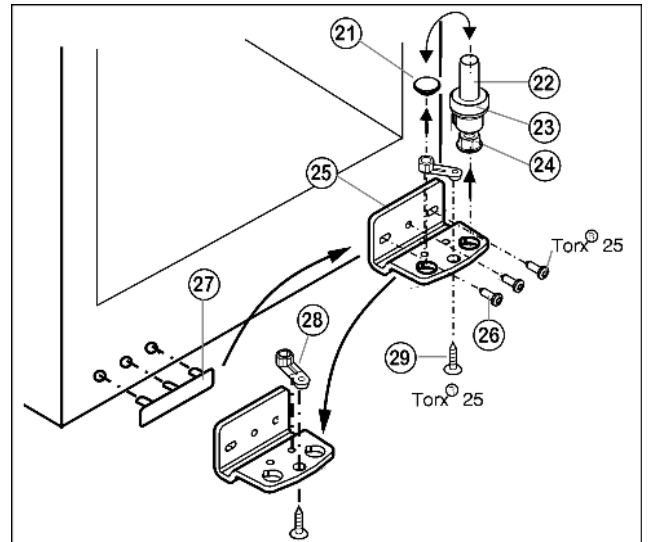

Fig. 5
- ▶ Lift out the bearing pin Fig. 5 (22) together with washer Fig. 5 (23) and adjustable-height foot Fig. 5 (24).
- ▶ Lift off the stopper Fig. 5 (21).
- ▶ Unscrew Fig. 5 (26) the turn hinge Fig. 5 (25).
- ▶ Unscrew Fig. 5 (29) the bearing element Fig. 5 (28), transfer it to the opposite location hole of the turn hinge and screw it firmly into place.
- ▶ Carefully lift off the cover on the handle side Fig. 5 (27) and transfer it to the opposite side.
- ▶ Screw the turn hinge Fig. 5 (25) firmly into place on the new hinge side, possibly using a cordless screwdriver (with 4 Nm).
- ▶ Re-insert the stopper Fig. 5 (21) into the other hole.
- ▶ Re-insert the bearing pin Fig. 5 (22) together with the washer and adjustable-height foot. In so doing, pay attention that the locating lug points backwards
- ▶ Place the door from above onto the lower bearing pin *Fig. 5 (22)*.
- ▶ Align the door to the appliance housing by way of the two oblong holes in the bottom turn hinge *Fig. 5 (25)*. To do so, unscrew the middle screw.